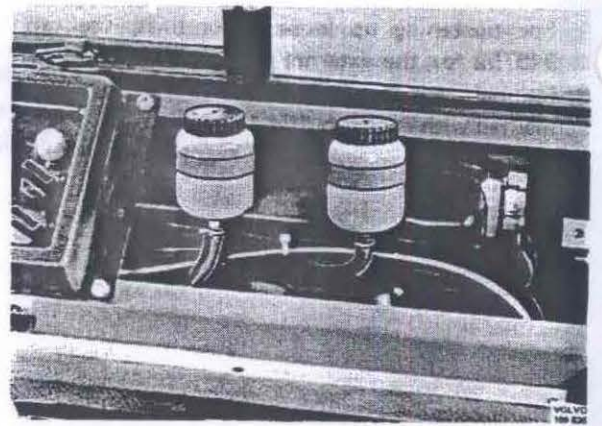

Fig. 50-5. Brake fluid reservoirs
Check to make sure that the brake fluid reservoirs are full, see Fig. 50-5.
1. Check to make sure that the brake fluid reservoirs are full, see Fig. 50-5.